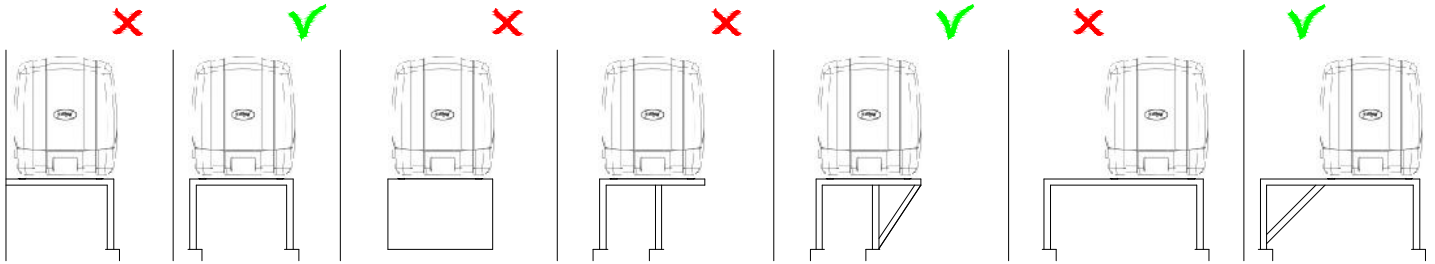

Figure 1: Mounting of the Whisper generating set. X = wrong, V = OK
- 1 Most important is the structure on which the Genverter is placed to be stiff. Directly below the base frame the structure should be supported vertically to the trusses of the boat. When this is not possible horizontal structures should be made stiff by additional provisions (refer to Figure 1).
- 5 Never connect the base of the generating set directly to walls or tanks (refer to Figure 1).